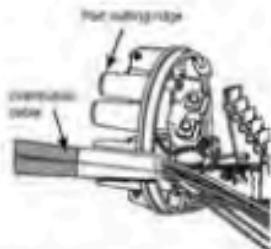

Figure 14
- Call the seal off the mounted part at the ridge with a hack saw (Fig. 14).